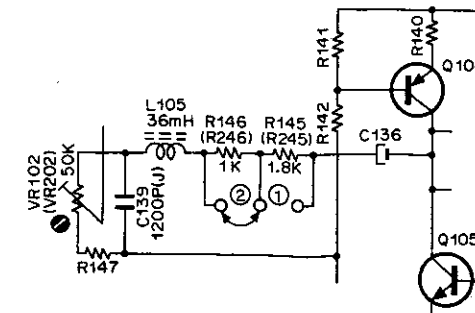

Fig. 6.5
| 9    | Playback Frequency Response | 400 Hz Level Tape (DA09005A)10 kHz PB Frequency Response Tape (DA09003A)15 kHz PB Frequency Response Tape (DA09002A)20 kHz PB Frequency Response Tape (DA09001A) | VTVM to OUTPUT Jacks   | PlaybackTape SW - SXEq. SW - 70 $\mu$ sDolby NR SW - OUTMPX SW - OUT   | Main P.C.B.R146, R246R145, R245      | <ol style="list-style-type: none"> <li>Load the 400 Hz level tape and play it back. Adjust the output level control to a certain level (example 0 dB)</li> <li>Load the 10 kHz, 15 kHz and 20 kHz PB frequency response tapes and adjust the playback head azimuth to give maximum levels on the VTVM with each tape. Short R146 (R246) and/or R145 (R245) to obtain the following level against 400 Hz level tape (normally peaking frequency will be adjusted at 23 kHz or about.). Refer to Fig. 6.5. <ul style="list-style-type: none"> <li>10 kHz -20 dB -1, +2 dB</li> <li>15 kHz -20 dB -1, +3 dB</li> <li>20 kHz -20 dB -1, +4 dB</li> </ul> </li> <li>Conduct step 6 "Playback Head Azimuth Alignment".</li> <li>If above is not sufficient refer to "Playback Frequency Response Adjustment" in item 6.2.1.</li> </ol> |